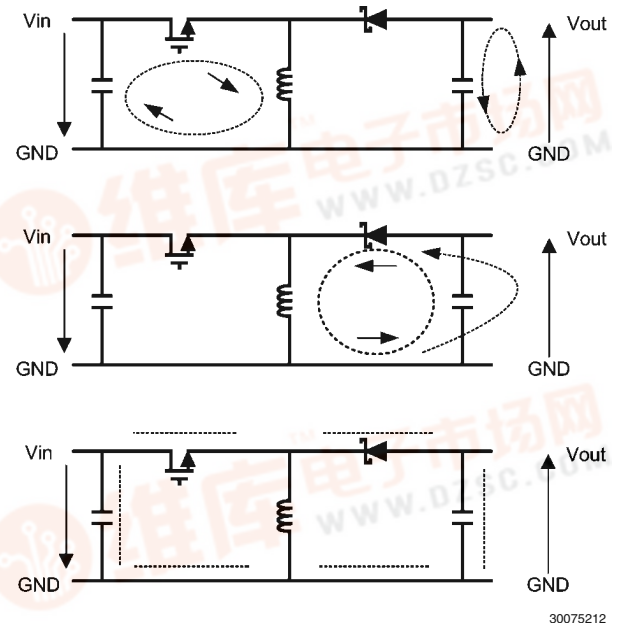

FIGURE 4. Current Flow in a Polarity-Inverting (Buck-Boost) Application
*Figure 4* shows the current flow of a polarity-inverting (buck-boost) converter. The top schematic shows dotted lines which represent the current flow during an on-state. The middle schematic shows the current flow during an off-state. The bottom schematic shows the currents referred to as AC currents. These AC currents are the most critical since current is